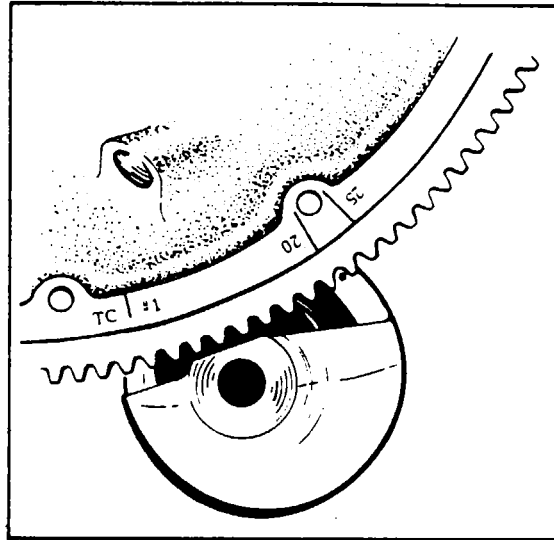

Figure 7A-13. Engine Timing Marks
a. Remove the spark plug from No. 1 cylinder and place a thumb over the spark plug hole. Rotate the crankshaft in direction of normal rotation until the compression stroke is reached, this is indicated by a positive pressure inside the cylinder tending to push the thumb off the spark plug hole. Continue rotating the crankshaft in direction of normal rotation until the advance timing mark of  $25^\circ$  on the front face of the starter ring gear is in exact alignment with the small hole located at the two o'clock position on the front face of the starter housing. (Refer to Figure 7A-13.)